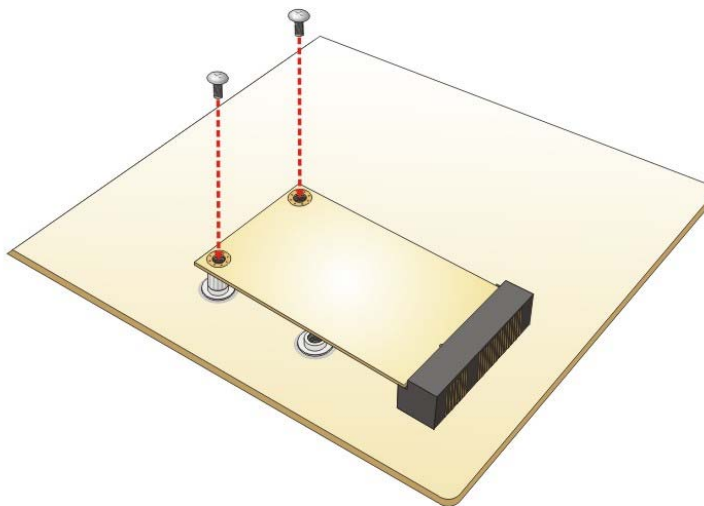

Figure 3-9: Securing the mSATA Module
Step 5: Secure the mSATA module with the retention screws previously removed (Figure 3-9).